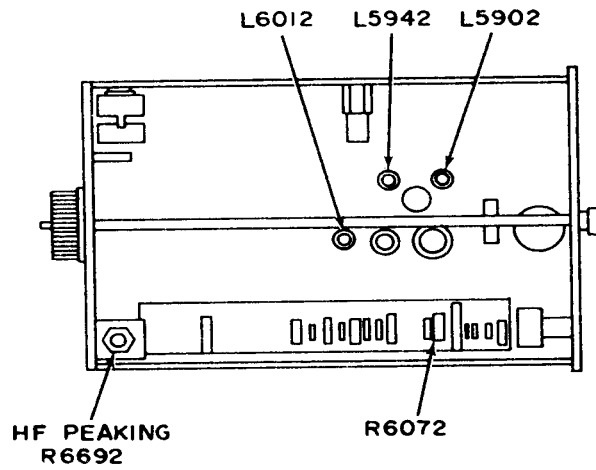
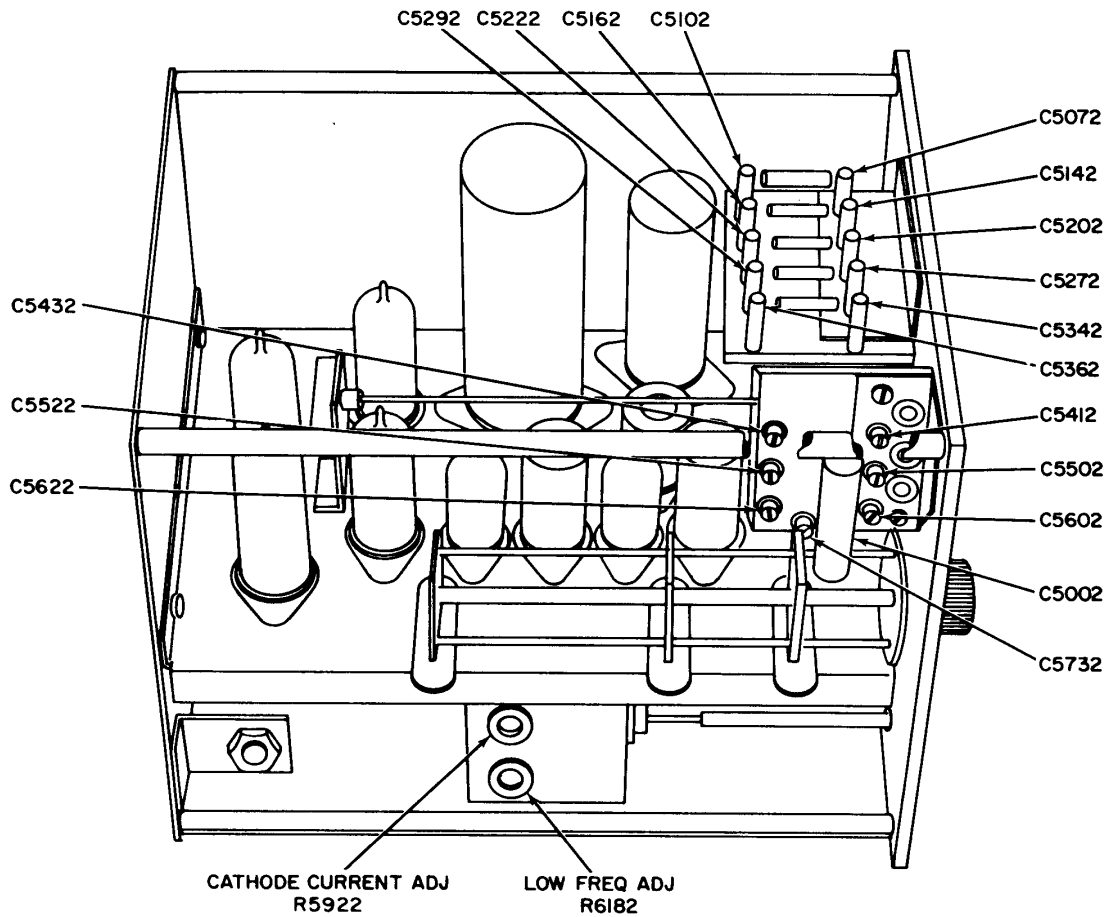

Figure 1. Plug-in unit - bottom interior view.
Figure 2. Plug-in unit - bottom interior view.
- (1) Remove TI from oscilloscope (A3) and reconnect, using plug-in extender (B5).
- (2) Connect dc voltmeter (A4) across R6072 (fig. 1), using cables supplied with dc voltmeter. Dc voltmeter will indicate between 54.45 and 55.55 volts dc. If not, perform **b** below.
- (3) Remove plug-in extender and reinstall TI in oscilloscope.
b. Adjustments. Adjust CATHODE CURRENT ADJ R5922 (fig. 2) for 55 volts dc as indicated on dc voltmeter.
| VOLTS/CM switch setting | Adjustments (fig 2) | |
(3) Adjust square-wave generator for a 1-kHz output and for a convenient display on oscilloscope (A3) crt.
(4) Adjust capacitor standard for optimum square-wave display on crt. If capacitor range is insufficient, adjust C5732 (fig. 2) to midrange and readjust capacitor standard.
(5) Turn TI VOLTS/CM switch to positions listed in table 5. Flat-top square wave will be displayed. If not, perform adjustments listed in table 5.
(1) Turn oscilloscope (A3) TIME/CM switch to 10 MILLISEC.
(2) Turn TI AC-DC switch to X10 GAIN AC and VOLTS/CM switch to .005.
(3) Adjust output of square-wave generator (A2) for 50 Hz and amplitude control for a 3-cm deflection on oscilloscope crt. Waveform displayed will have flat tops. If not, perform **b** below.
b. Adjustments. Adjust LOW FREQ ADJ R6182 (fig. 2) for square waves with flat tops.
(1) Turn oscilloscope (A3) TIME/CM switch to .5 μ SEC.
(2) Turn TI AC-DC switch to DC and VOLTS/CM switch to .05.
(3) Adjust square-wave generator (A2) output for approximately 500 kHz and amplitude control for a 3-cm vertical deflection on oscilloscope crt. Oscilloscope will display square waveform with no overshoot. If not, perform **b** below.
b. Adjustments. Adjust HF PEAKING R6692 (fig. 1) for square wave with no overshoot.
(1) Turn TI AC-DC switch to X10 GAIN AC.
(2) Adjust output of square-wave generator (A2) to 450 kHz and amplitude control for a 3-cm deflection on oscilloscope (A3). Oscilloscope will display square-cornered waveform with no overshoot. If not, perform **b** below.
b. Adjustments. Adjust L5902, L5942, and L6012 (fig. 1) for square leading corner on displayed waveform with fastest rise time, but no overshoot.